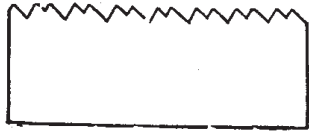

FIG. 1
A. If the teeth are uneven as shown in Fig. 1 it is necessary to proceed with operation 2, 3, 4 and 5.
The Saw in Fig. 1 after jointing.